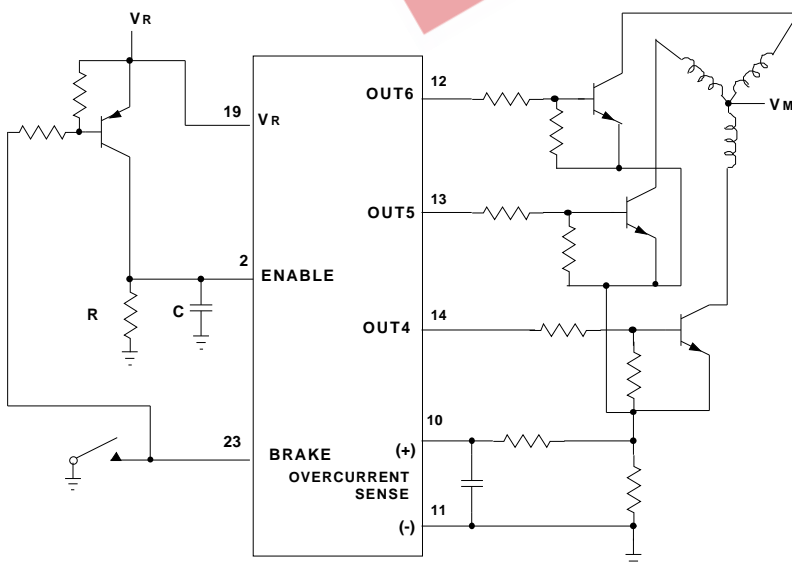
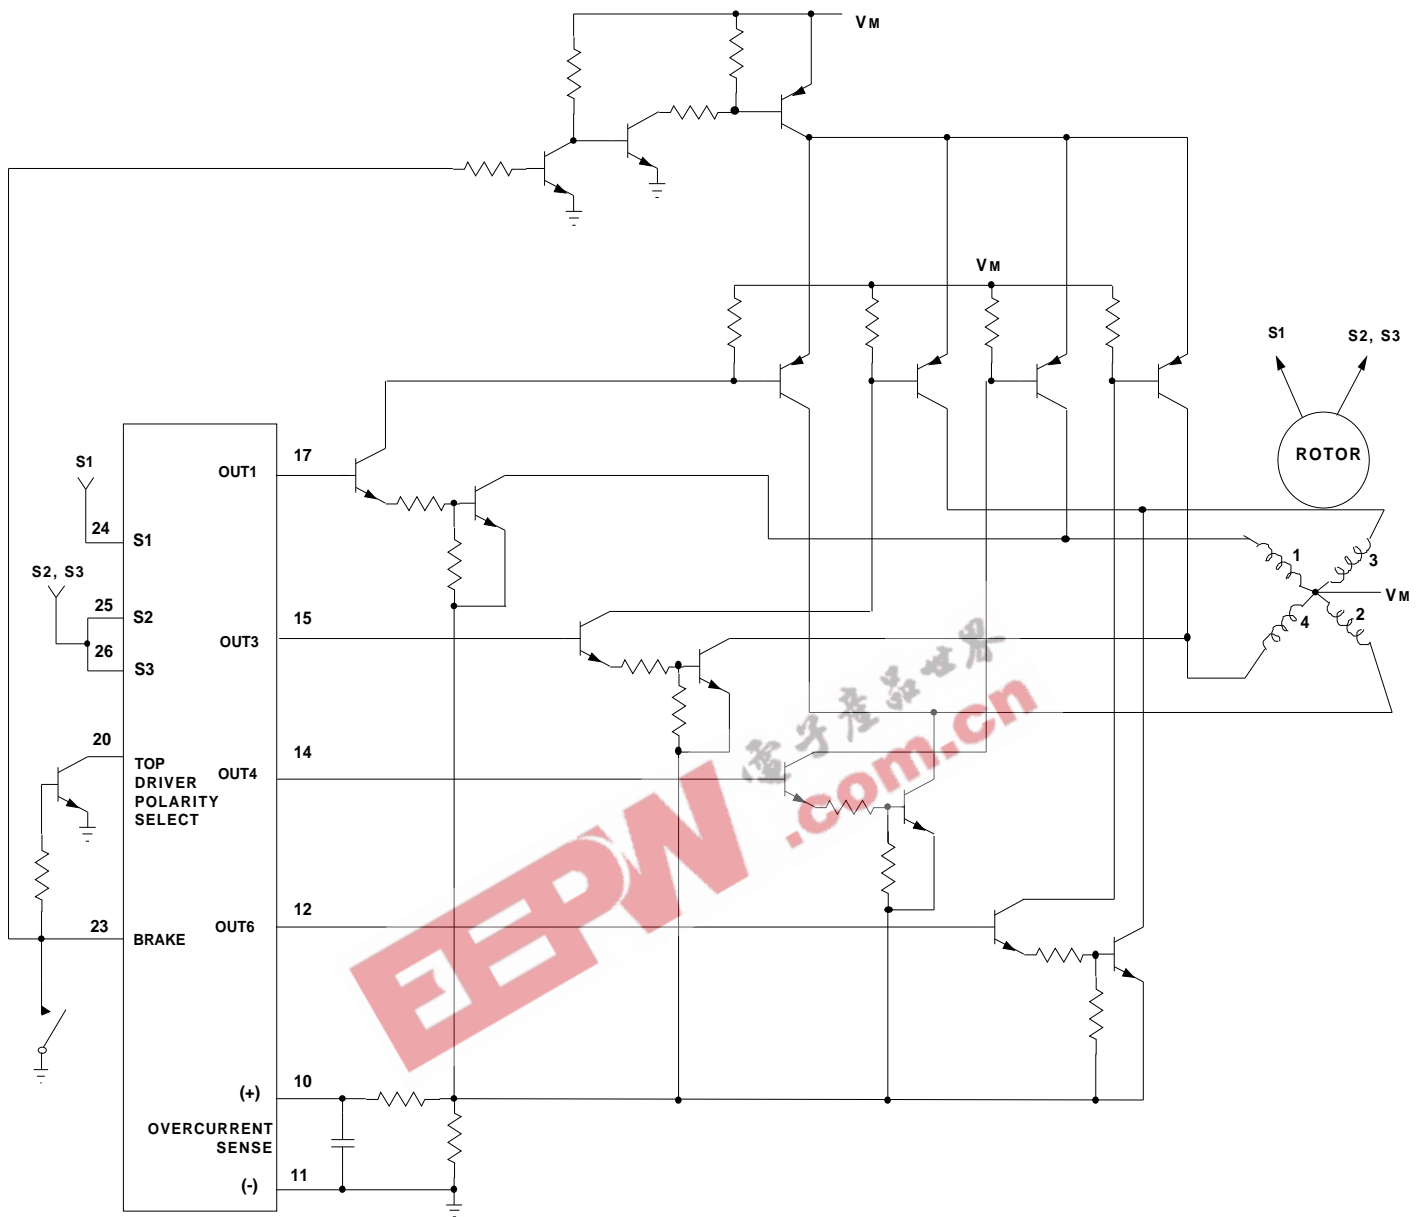
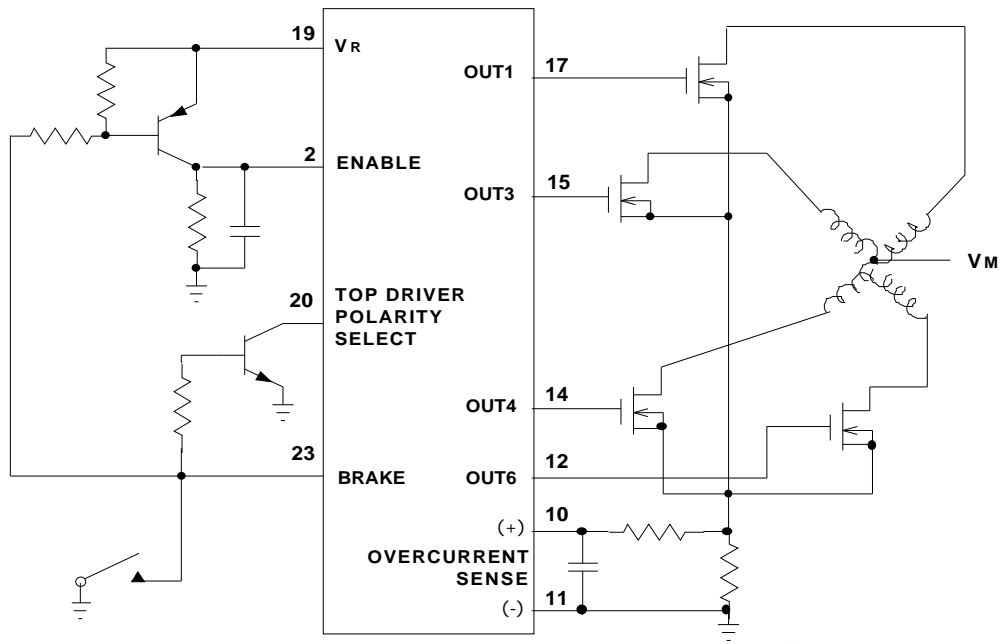

FIGURE 4. THREE-PHASE HALF-WAVE MOTOR CONTROLLER
FIGURE 6. FOUR-PHASE FULL-WAVE MOTOR CONTROLLER
FIGURE 7. FOUR-PHASE HALF-WAVE MOTOR CONTROLLER
FIGURE 4. This three phase half wave motor controller has no top power transistor to disconnect the windings from the power supply when the BRAKE is applied. Instead, a switching transistor is used which will permit braking for a time determined by the RC time constant. When the capacitor discharges past the ENABLE input switching point, the outputs will be turned off.
**FIGURE 6.** Four phase motor control requires only two Hall Sensor inputs spaced 90 electrical degrees apart. S1 is connected to one sensor and S2 and S3 are tied together and connected to the other sensor (Refer to Table 1). The Brake input (Pin 23) is used to control the Top Driver Select (Pin 20) and the Top Motor Drivers. When the Brake input is applied, the Top Motor drivers are turned off and the Top Driver Polarity Select is forced low turning on the Outputs 1 and 3. Since Outputs 4 and 6 are also turned on, the motor windings become shorted together.
FIGURE 7. This four phase half wave motor controller uses the same Brake circuit as in Figure 4 and switches the Top Driver Select from a high to a low as in Figure 6.